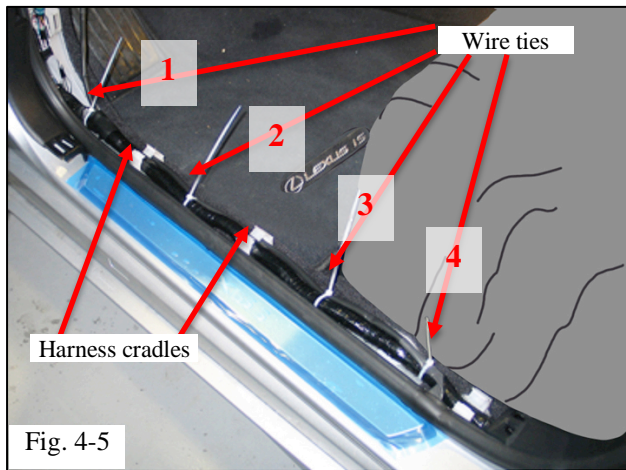

Fig. 4-5
- (i) Route the door sill harness forward through the two (2) existing harness cradles, along the outside edge of the vehicle harness, and secure it with four (4) cable ties (Fig. 4-5).